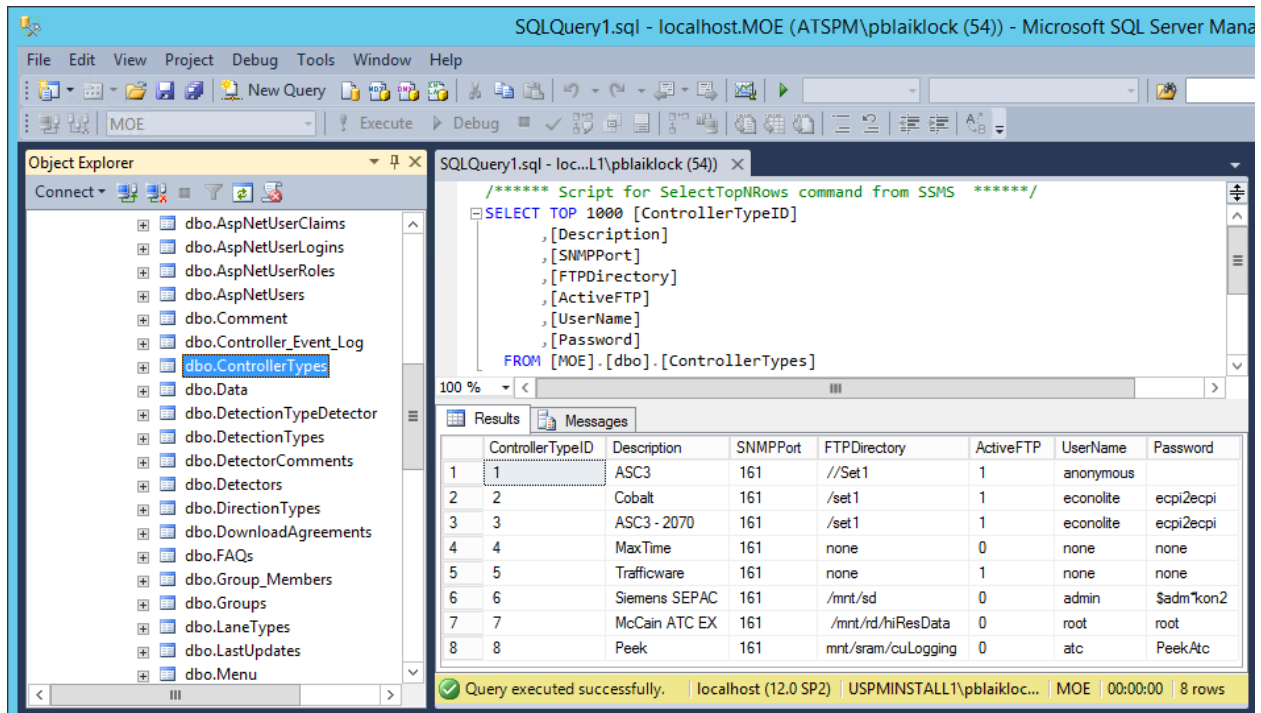

Figure 3: Checking tables in SQL Server Management Studio
- Expand **Tables** within the MOE database, see Figure 3. Verify that several dozen tables have been created. Right-click the **ControllerTypes** table and select the top 1000 rows. Verify that signal controllers have been populated.